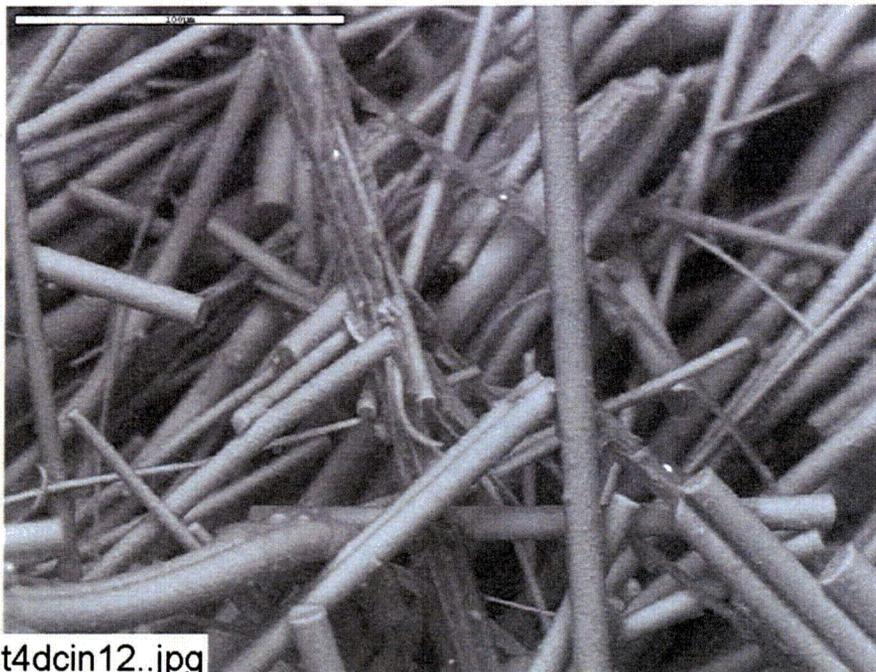

Figure C6-6. Environmental SEM image magnified 100 times for a Test #4, Day-30 interior fiberglass sample on the drain collar. (t4dcin11..jpg)
- Figure C6-6. Environmental SEM image magnified 100 times for a Test #4, Day-30 interior fiberglass sample on the drain collar. (t4dcin11.jpg)..... C6-7